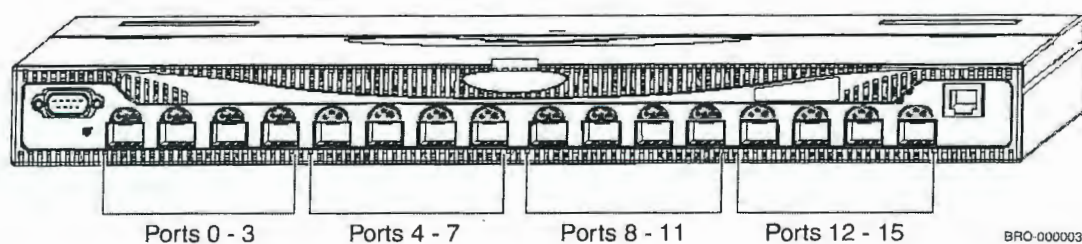
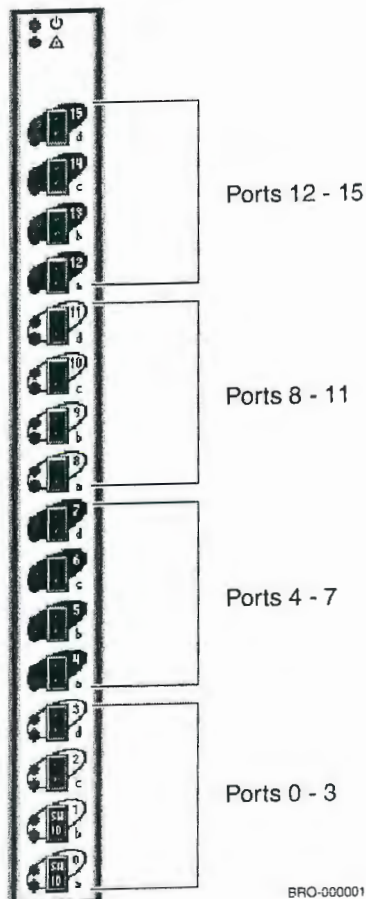

Figure 1-3 Quad and Port Groupings on a DS-16B2
Figure 1-5 Port Groupings on the Port Card of an ED-12000B
- ◆ Ports must reside in the same contiguous four-port groups. For example: 0-3, 4-7, 8-11, 12-15. All ports in the same trunking group must reside in the same quad; quads are groups of four adjacent ports that are marked in intervals on each switch. The first four ports on a switch comprise the first quad, and every group of four adjacent ports thereafter comprise another quad. Figure 1-3 though Figure 1-5 show the quads for various switch models.
Potential trunking groups are marked on the front of the switch, according to quad location. Figure 1-3 shows which ports on a DS-16B2 belong to the same quads.
Figure 1-5 shows which ports on an ED-12000B port card belong to the same quads.